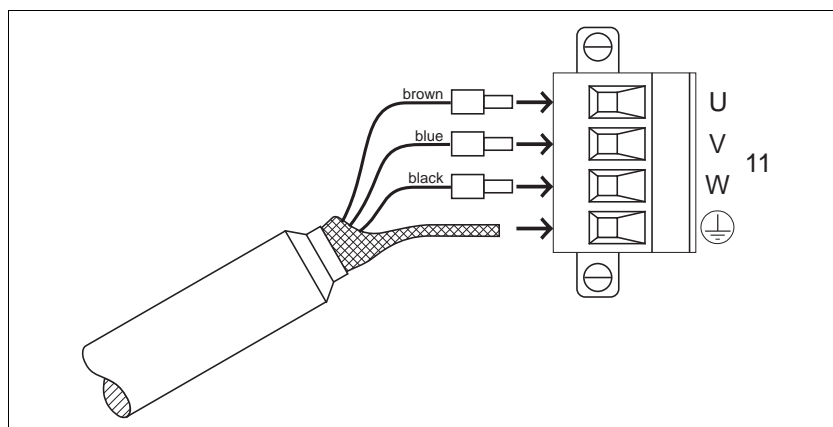

Fig. 2-6 Motor connector – device end
1. Release the two screws of the motor connector and remove the connector (fig. 2-6) from the unit.
4. Fasten the connector to the front panel (item 11) with screws.